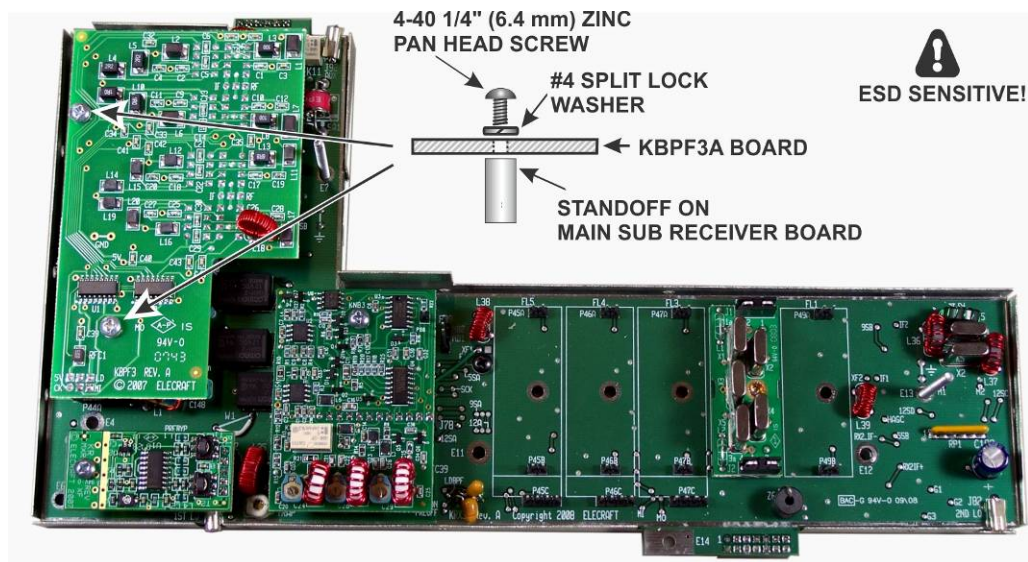
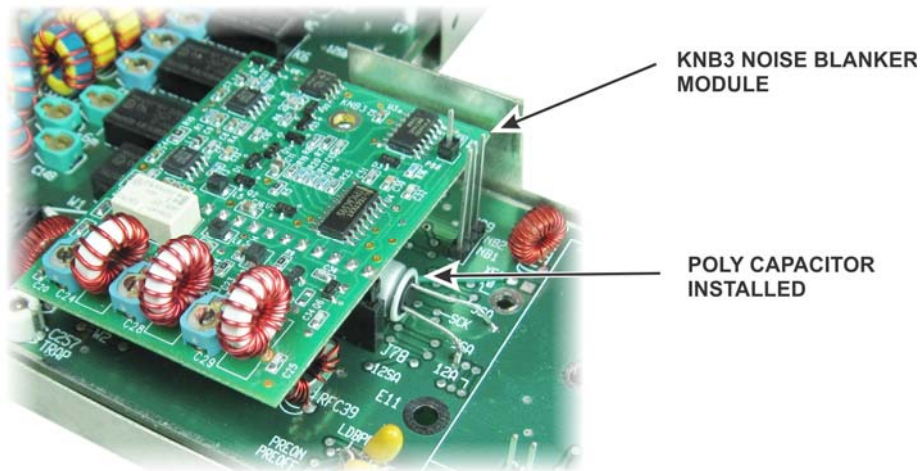
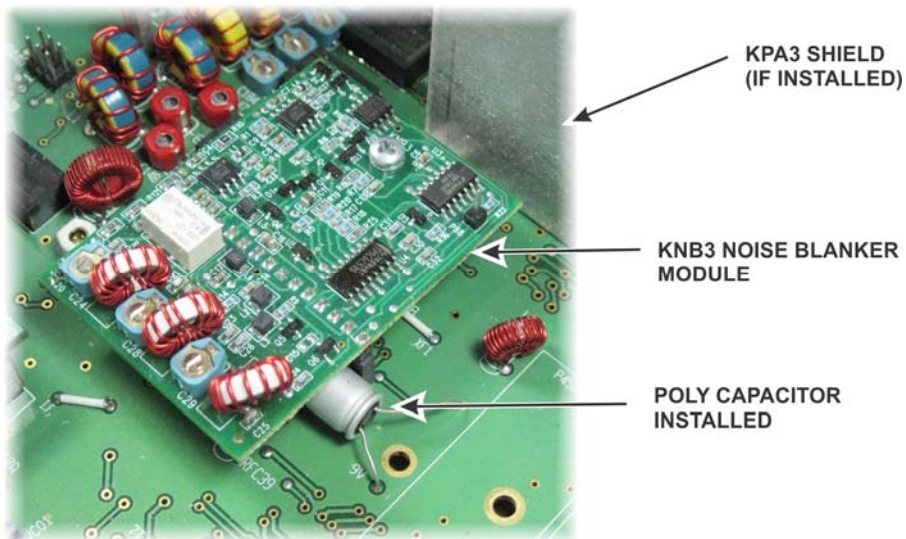

Figure 9. Mounting KBPF3A on the Sub Receiver Board.
Figure A-1. Poly Capacitor Location on KRX3 Main Board.
Figure A- 3. Poly Capacitor Location on K3 RF Board.
This capacitor is already installed in all K3S transceivers, and in the A version (KRX3A) of the sub receiver. You can easily check to see if the capacitors are present while installing the KBPF3A modules. The installed bypass capacitors are shown in Figure A-1 and Figure A- 3. If you are unsure whether you need to install them, you may wish to obtain the necessary capacitors and be ready to install them to avoid having to disassemble your K3 twice.
After opening the sub receiver enclosure (see Figure 9, page 11) check to see if the modification has been made before. If so the capacitor will be visible under the Noise Blanker module (see Figure A-1).
- If the capacitor has been installed, it will be visible under the KNB3 Noise Blanker module on the K3 RF board next to the crystal filter locations (see Figure A- 3).